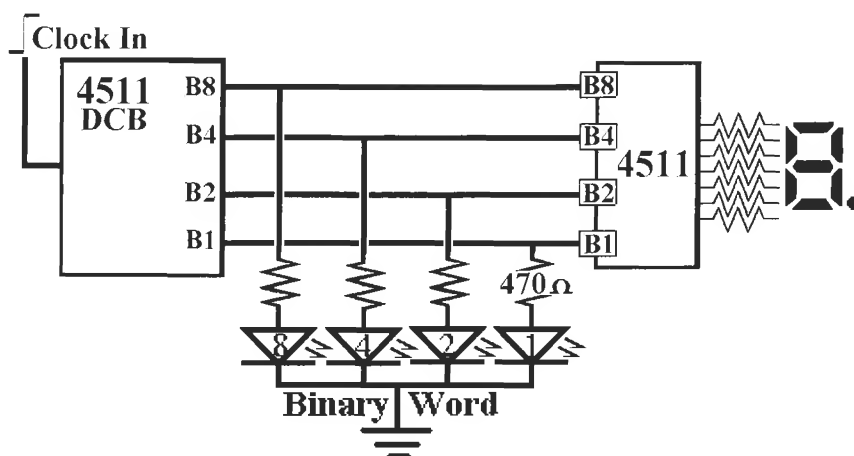

Figure L41-5
- Up/down counter. First, try out the up/down counter at pin 10. Use a long wire as shown in Figure L41-5 to connect the up/down control to ground.